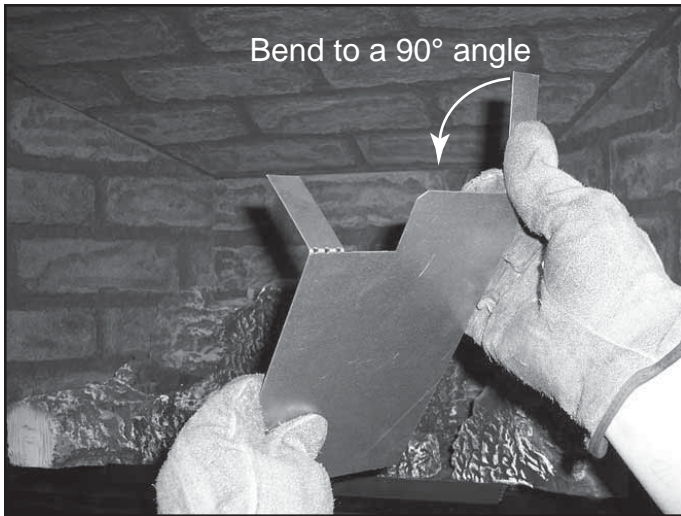

Figure 15.18 Bend Control Heat Shield Legs
- Bend four legs at 90° angle as shown in Figure 15.18.